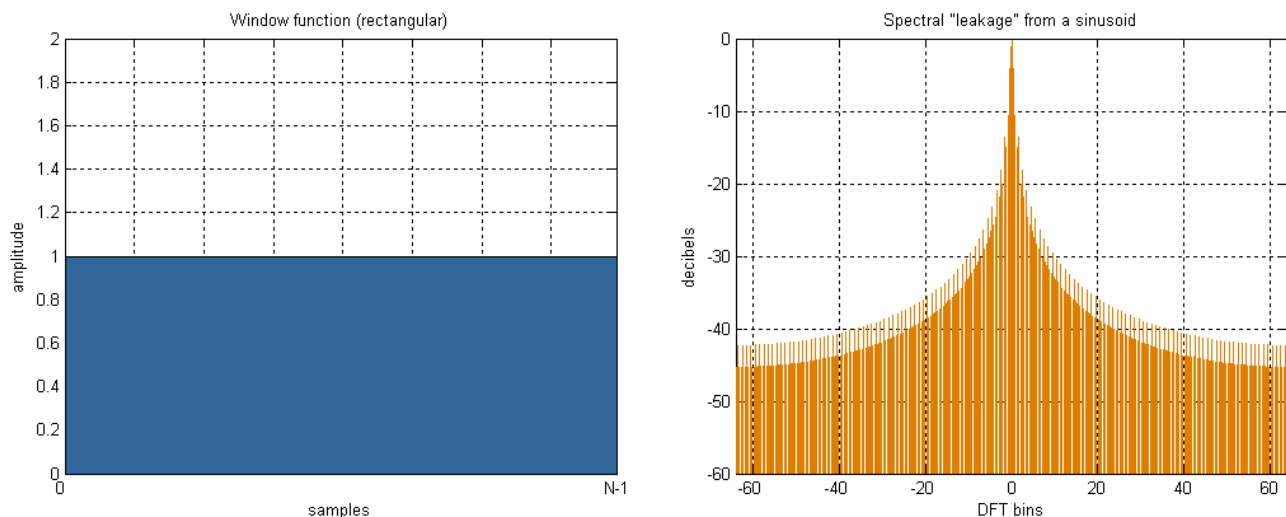

Figure 178: Rectangular Window Function and Frequency Response to a Sinusoid
- Their graphical representations are shown in Figure 178 through 179 respectively: